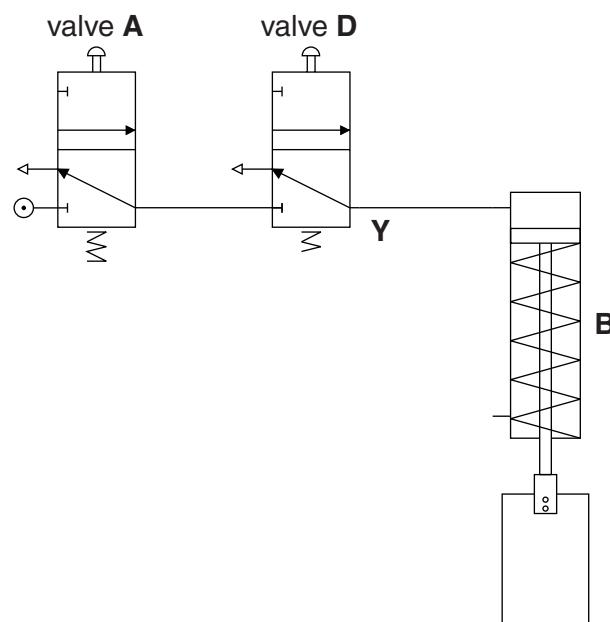

Fig. 5
- (b) The circuit shown in Fig. 5 produces a logic function.
- (ii) Give the reason why health & safety regulations insist on the circuit shown in Fig. 5.